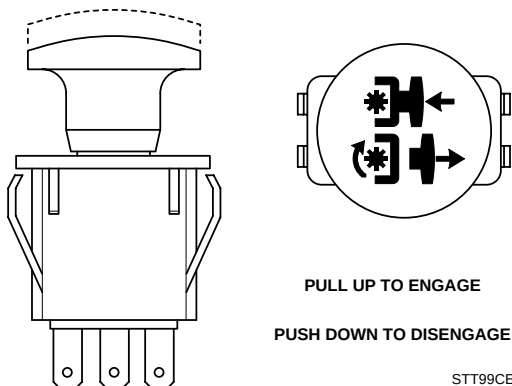

Figure 4-4 Cutter Engage Switch
2. Engage the deck drive by pulling up on the yellow switch, located on the instrument panel, (Figure 4-4) to the engage position.